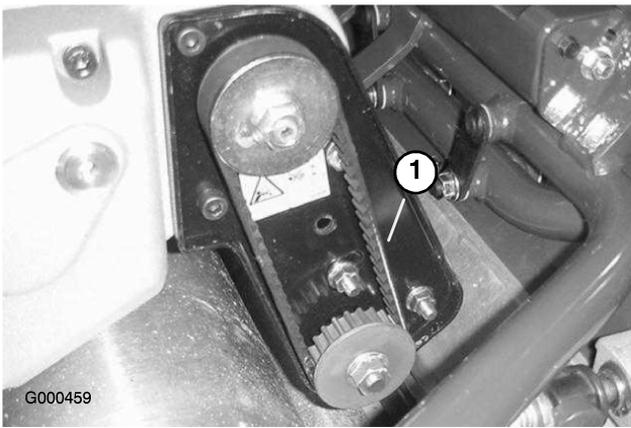

Figure 35
2. Check tension by depressing belt (Figure 35) at mid span of pulleys with 4 ± 1 lb. of force. Belt should deflect 1/4 in. If deflection is incorrect, proceed to next step.